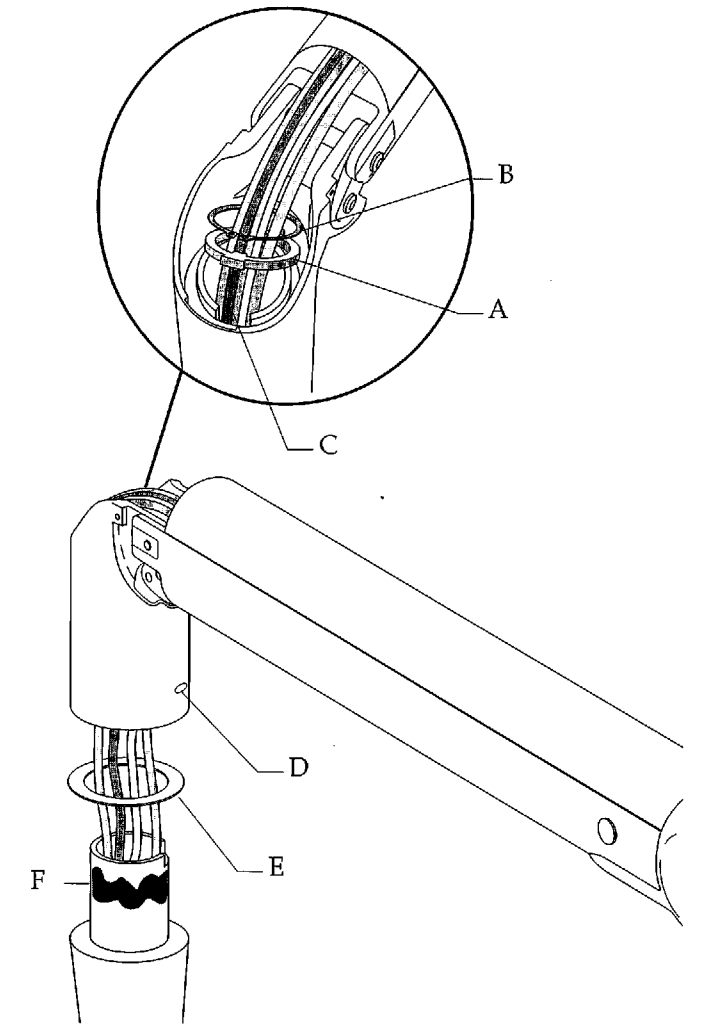

Figure 17. Seating the delivery system. (A) pivot stop ring; (B) snap ring; (C) notch; (D) setscrew; (E) thrust washer; (F) Lubriplate
2. Use Lubriplate® to lube the post of the front-mount arm (see Figure 17).